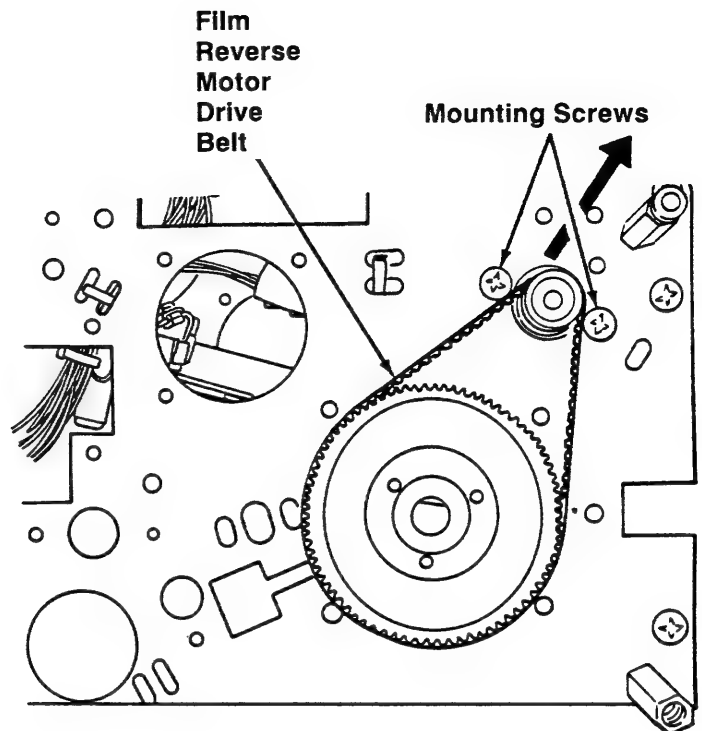

Figure 3-3B
6. Place a Ruler near the center of the Film Reverse Motor Drive Belt (Figure 3-3B) and push down. The deflection should measure between 4 mm and 5 mm (0.16 in. to 0.20 in.).
1. Loosen the mounting screws securing the Film Reverse Motor (Figure 3-3B).